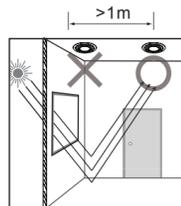

FIG.4-C
- Do not install the sensor directly next to a window or sun blind which can cause incorrect measurement on the natural light (Refer to FIG.4-C)